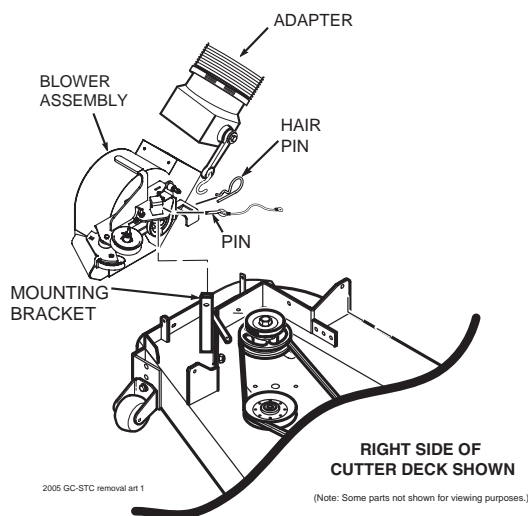

Figure 4-1
3. Remove the rubber strap holding the adapter to the blower assembly. See Figure 4-1.
5. Remove the mounting pin and hair pin holding the blower assembly to the mounting bracket on the cutter deck and remove the blower assembly. See Figure 4-1.